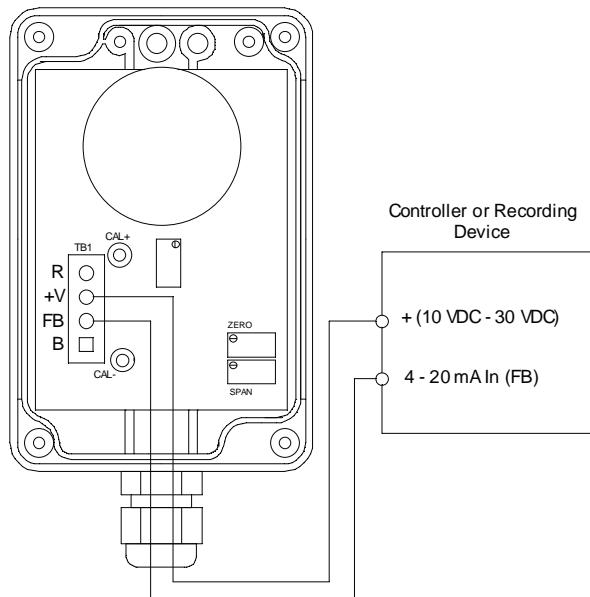

Figure 3: Wiring the CO Transmitter to a Controller
5. Connect the two wires to the interconnect terminal strip as follows (see Figure 3.)
8. Connect the wires to the applicable controller transmitter terminal strip as shown in Figure 3 below.